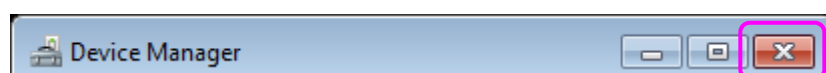

Fig.2-13
Step3: Close device manager. (Fig.2-13)